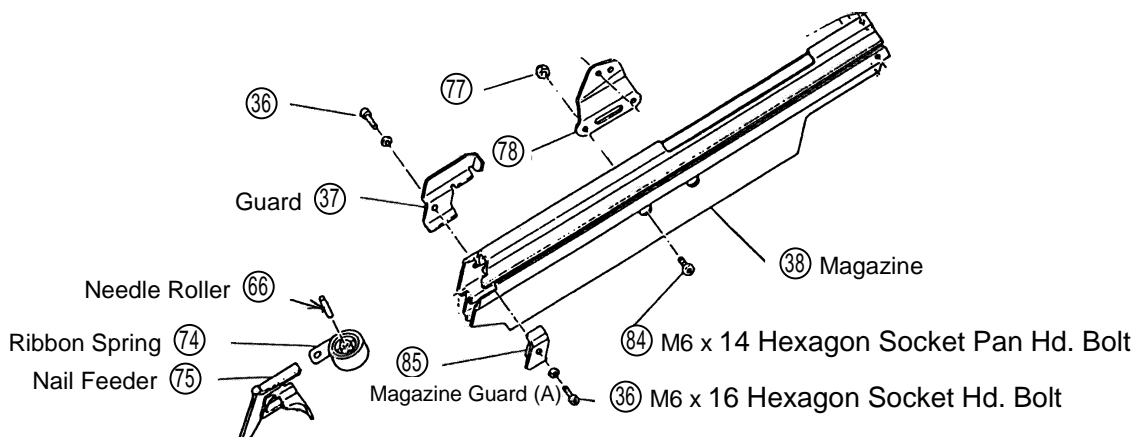

Fig. 15 Disassembly/Reassembly of the Magazine Section
- Shift the Nail Feeder (75) to the Tail Cover (39) side in a state where it is held by the Ribbon Spring (74).
- Remove the two M6 x 14 Hexagon Socket Hd. Bolts (84) and the M6 x 16 Hexagon Socket Hd. Bolt (36) on the Guard (37) side.
- Loosen the front-side M6 x 16 Hexagon Socket Hd. Bolt (36) (on the Magazine Guard (A) (85) side), and withdraw the Magazine (38) from the Tail Cover (39). The Magazine (38), Ribbon Spring (74) and related parts can then be disassembled (see Fig. 15).